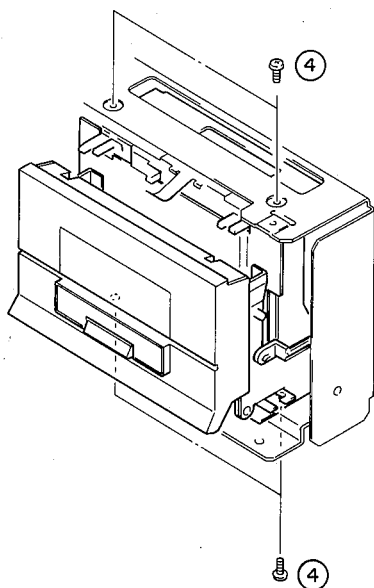

Fig. 2
- d. Remove 4 screws (4) in Fig. 2.